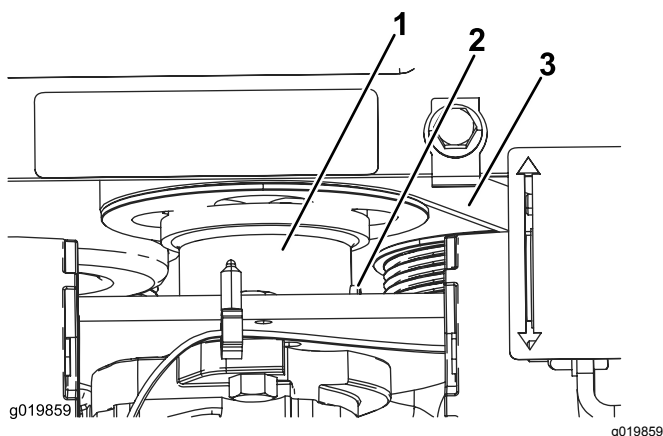

Figure 53
5. Loosen the set screw on the pump-drive coupler (Figure 53).